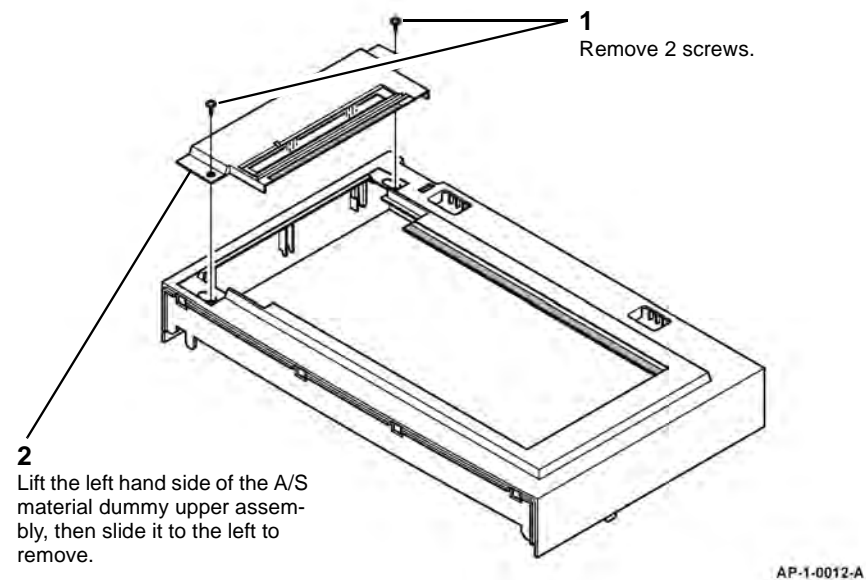

Figure 10 A/S material dummy upper assembly removal
12. Remove the A/S material dummy upper assembly, Figure 10.